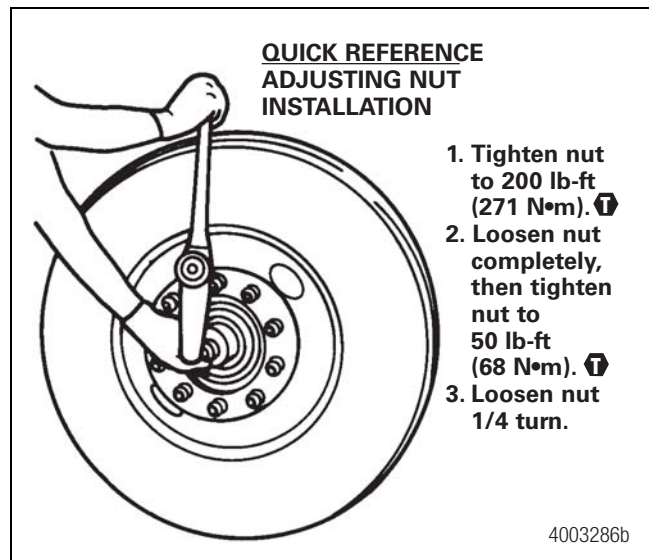

Figure 10.5
1. Install the adjusting nut so that the pin on the nut faces away from the wheel-end equipment. Tighten the nut to 200 lb-ft (271 N•m) while rotating the wheel end in both directions. Figure 10.5. ①